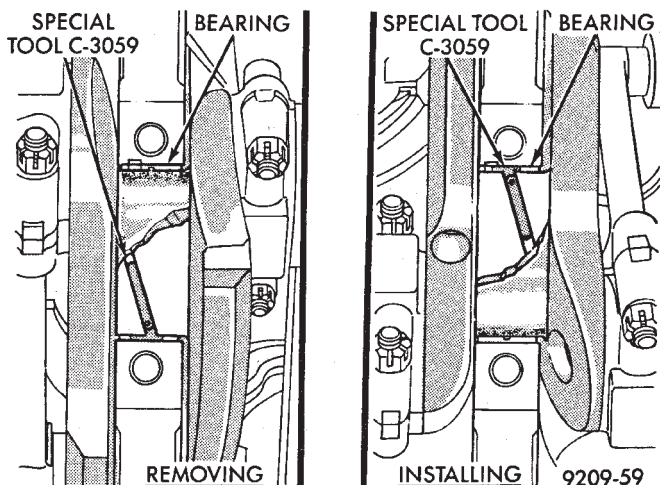

Fig. 58 Removing and Installing Upper Main Bearing With Special Tool C-3059
- (1) Remove oil pan and identify bearing caps before removal.
- (2) Remove bearing caps one at a time. Remove upper half of bearing by inserting Special Main Bearing Tool C-3059. (Fig. 58) into the oil hole of crankshaft.
- (3) Slowly rotate crankshaft clockwise, forcing out upper half of bearing shell.
- (1) Start bearing in place, and insert Main Bearing Tool C-3059 into oil hole of crankshaft (Fig. 58).
- (2) Slowly rotate crankshaft counterclockwise sliding the bearing into position. Remove Special Main Bearing Tool C-3059.
- (3) Install each main cap and tighten bolts finger tight.
- (4) Tighten number 1, 3 and 4 main cap bolts to 41 N·m + 1/4 Turn (30 ft. lbs. + 1/4 Turn).
- (5) Rotate the crankshaft until number 6 piston is at TDC.
(6) To ensure correct thrust bearing alignment the following procedure must be done:
- (7) Move crankshaft all the way to the rear of its travel.
- (8) Then, move crankshaft all the way to the front of its travel.
- (9) Wedge a appropriate tool between the rear of the cylinder block and rear crankshaft counterweight. This will hold the crankshaft in its most forward position.
- (10) Tighten the #2 Thrust Bearing cap bolts to 41 N·m + 1/4 Turn (30 ft. lbs. + 1/4 Turn). Remove the holding tool.